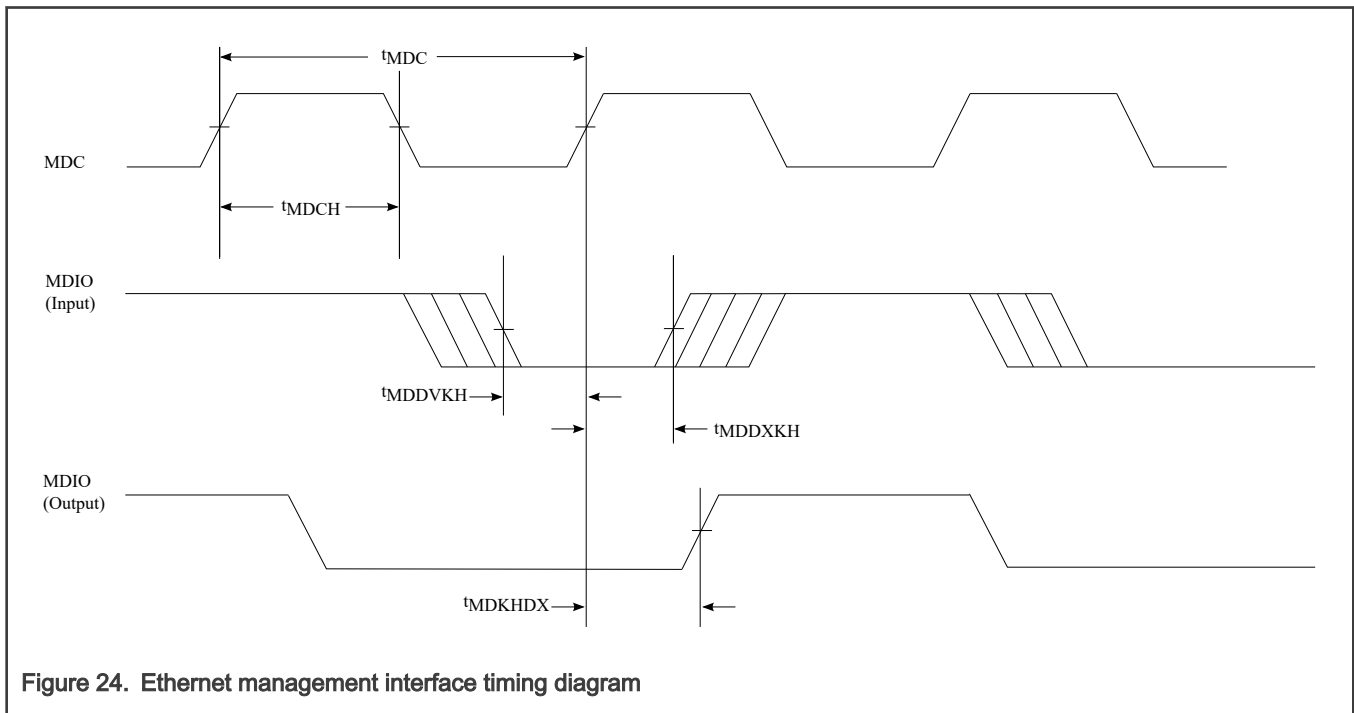

Figure 24. Ethernet management interface timing diagram
<p>2. t_{enet_clk} is the Ethernet clock period x 2.</p> <p>3. MDIO timing is configurable by programming the EMDIO_CFG register fields. The default value of Y = 5. Y is the value determined by EMDIO_CFG[NEG], EMDIO_CFG[MDIO_HOLD], and MDIO[E HOLD]. The easiest way is to program NEG=1, then MDIO is driven at negative edge of MDC, satisfying both setup and hold time requirement of Ethernet PHY.</p> <p>4. The symbols used for timing specifications follow these patterns: $t_{(first\ two\ letters\ of\ functional\ block)(signal)(state)(reference)(state)}$ for inputs and $t_{(first\ two\ letters\ of\ functional\ block)(reference)(state)(signal)(state)}$ for outputs. For example, t_{MDKHDX} symbolizes management data timing (MD) for the time t_{MDC} from clock reference (K) high (H) until data outputs (D) are invalid (X) or data hold time. Also, t_{MDDVKH} symbolizes management data timing (MD) with respect to the time data input signals (D) reach the valid state (V) relative to the t_{MDC} clock reference (K) going to the high (H) state or setup time.</p> <p>5. Assumes a maximum load of 338 pF.</p> <p>6. See Figure 24.</p>